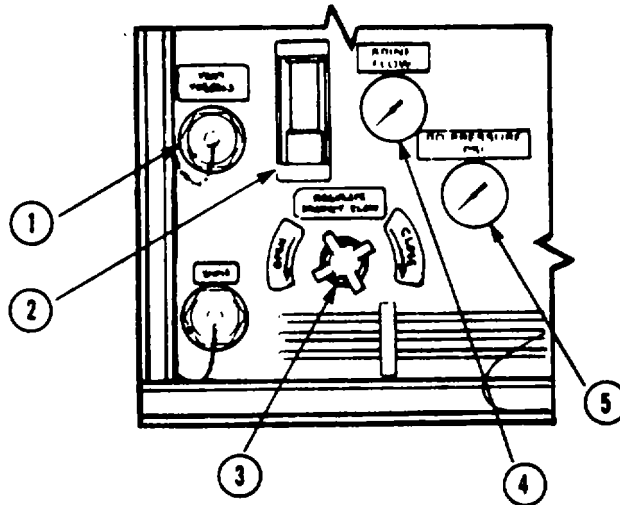

Figure 2-67. R.O. Pressure and Product Water Flow Gages
- s. Check that the REGULATE PRODUCT flow valve (3, fig. 2-67) is fully open.